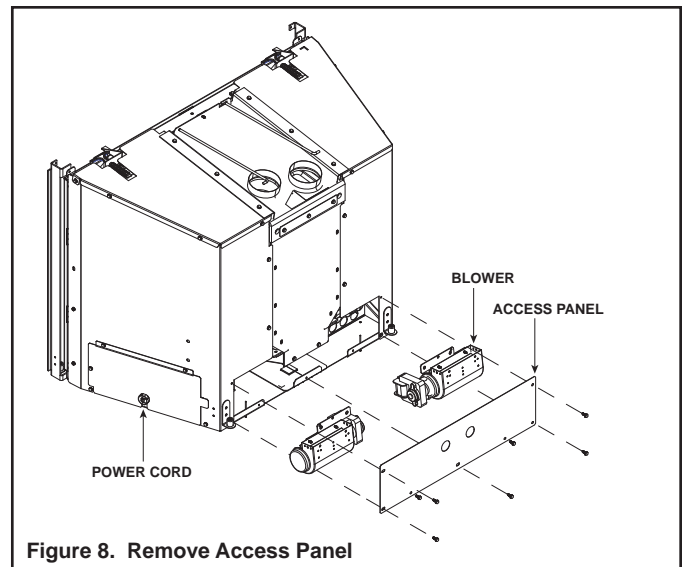

Figure 8. Remove Access Panel
3. Remove access panel from lower rear of the fireplace insert. See Figure 8.